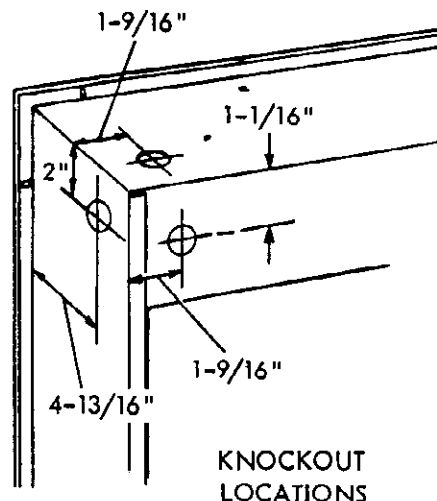

Figure 15
Before inserting the cabinet, one of the three knockouts (figure 15) should be removed for insertion of the 120 VAC input wiring.
- b. Three knockouts (figure 15) are located in upper right-hand corner of cabinet. A built-in "J" type junction box is included. Secure wiring with accepted hardware.